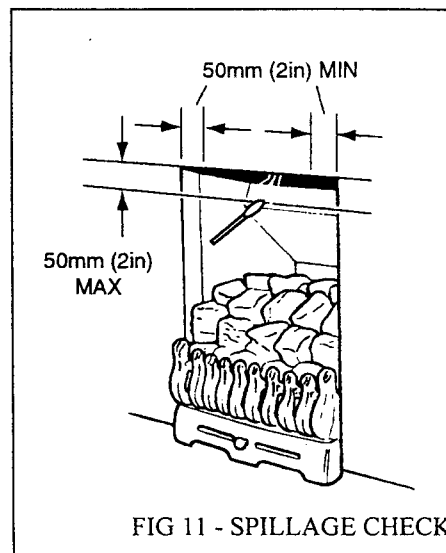

FIG 11 - SPILLAGE CHECK
***A spillage check must be made before leaving the installed appliance with the customer. Make this with all the ceramic coals in position. ( see fig 11 )***